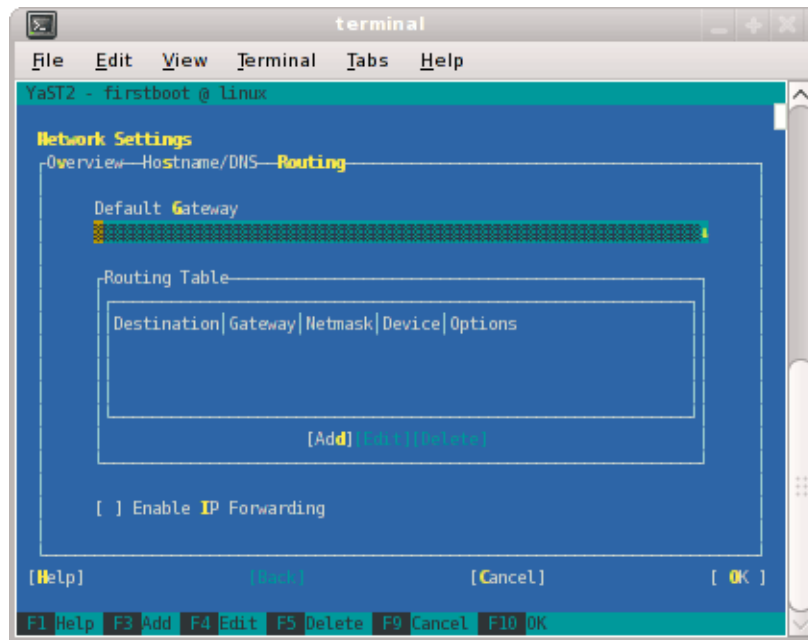

Figure 1-15 Network Settings Routing Screen
10. Select **Routing** shown in Figure 1-15 on page 22 and enter your house/public network default router information there. Now you can select **OK**.